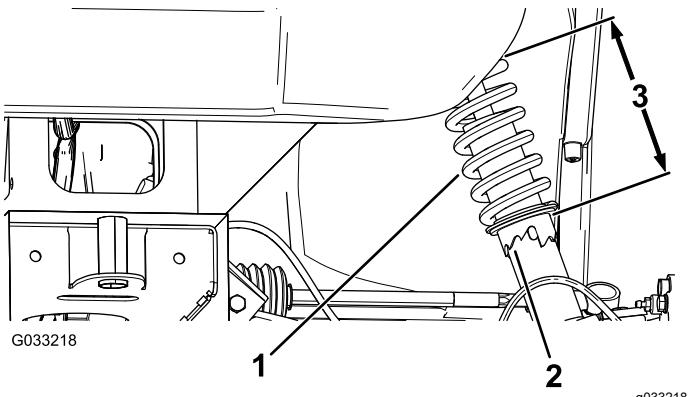

Figure 47
2. If the wheel camber is out of alignment, use the spanner wrench to rotate the collar on the shock absorber to align the wheel (Figure 47).